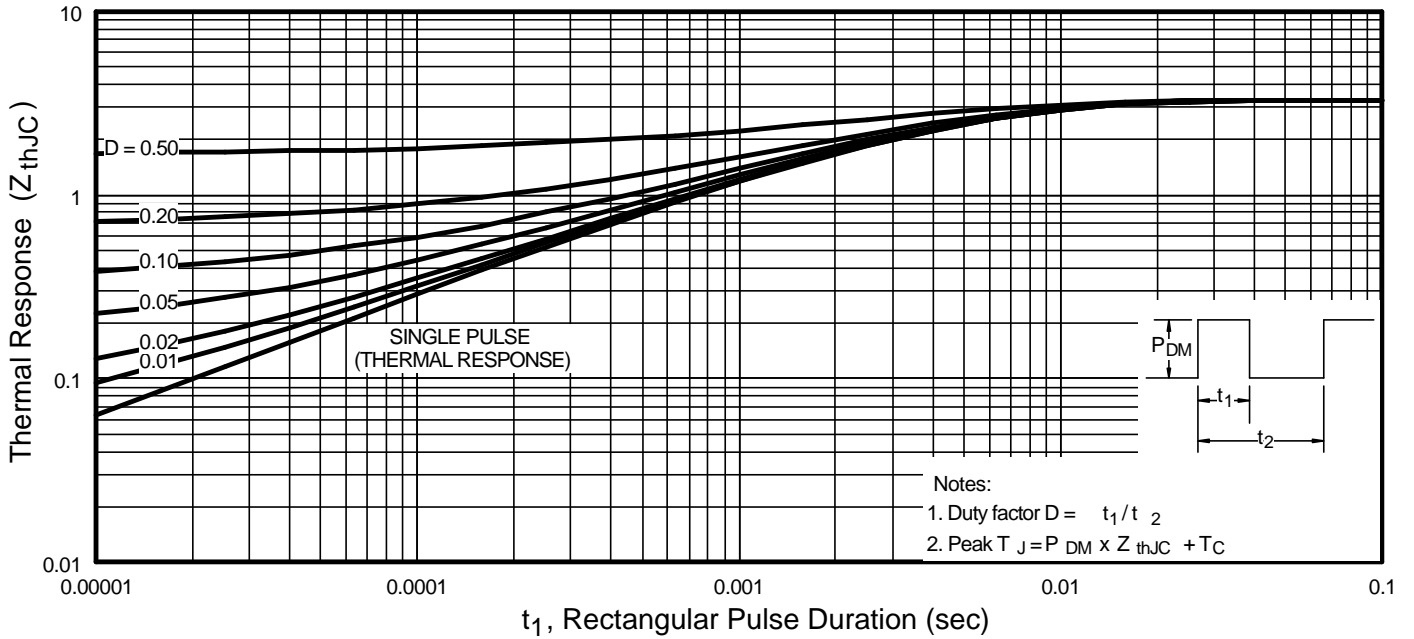

Fig 11. Maximum Effective Transient Thermal Impedance, Junction-to-Case
- ① Repetitive rating; pulse width limited by max. junction temperature. (See fig. 11)
- ② Starting $T_J = 25^\circ\text{C}$, $L = 2.8\text{mH}$